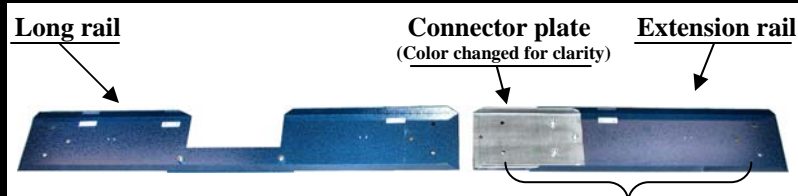

Fig 1
1. Assemble the two side rails as in Figure 1. Each side rail is made up of three pieces: a long rail with notch, a connector plate and an extension rail. The connector is already bolted to